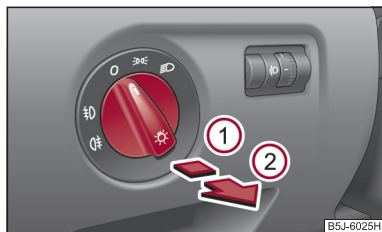

Fig. 37 Dash panel: Light switch
- First of all turn the light switch into position  or  ⇒ fig. 37.